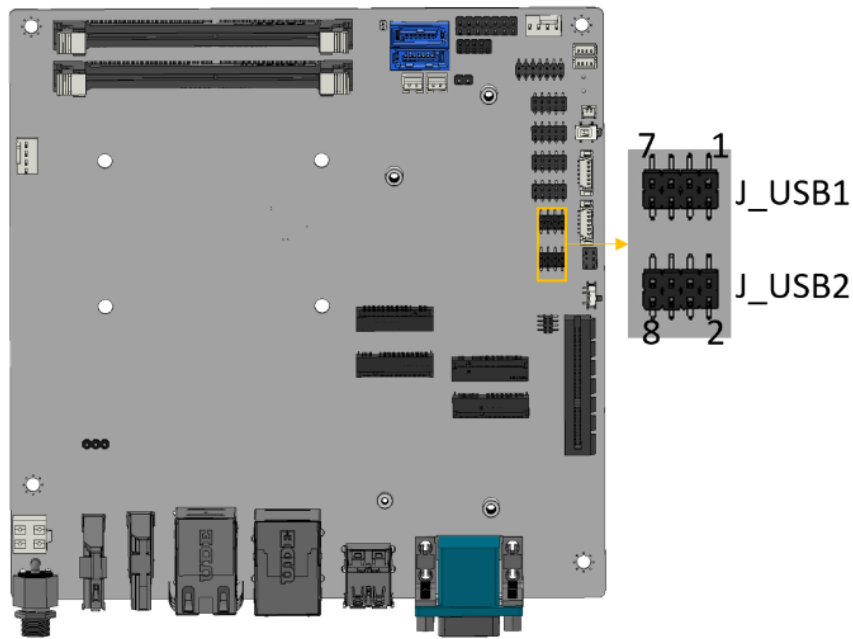

Figure 3-21: Internal USB 2.0 Connectors Locations
- CN Location:** See **Figure 3-21**